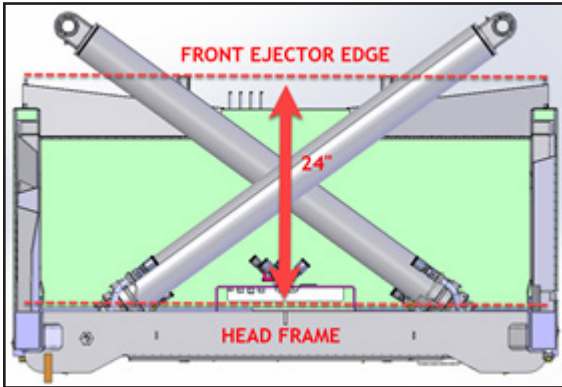

Figure 1
1. Extend the packer so that it is approximately 24" away from the headframe (Figure 1).